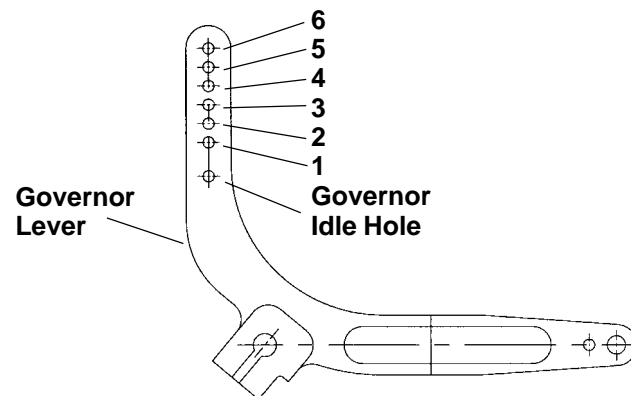

Figure 11-82. Connecting Spring to Governor Lever.
3. Connect the governor spring from the main control bracket to the appropriate hole in the governor lever as indicated in the following charts. Note that hole positions are counted from the pivot point of the governor lever. See Figure 11-82 and the appropriate chart.